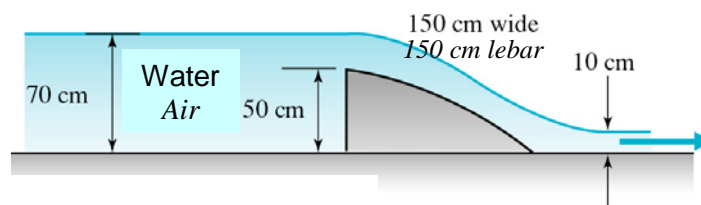

Figure 8 / Rajah 8
- [b] Neglect viscous effect, assume uniform velocity profiles and find the horizontal force component acting on the obstruction shown in Figure 8. (Given: $\gamma_{\text{water}} = 9810 \text{ N/m}^3$)